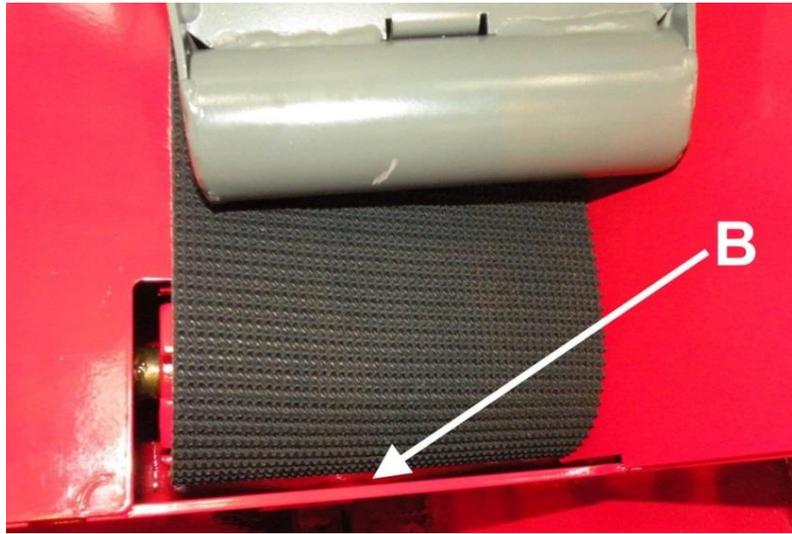
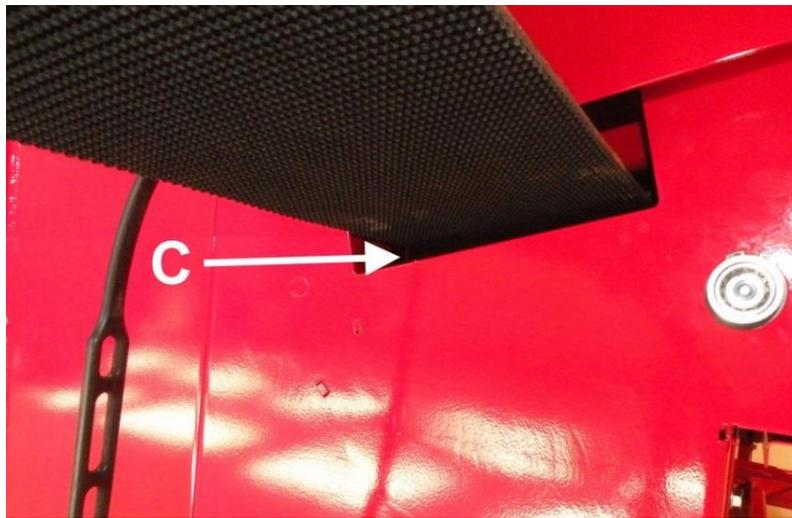

Figure 27
Figure 28
6. Insert the new belt from the side of the in-feed conveyor's drive roller through opening B (Figure 27), until you can pull the belt out from other end C (Figure 28). Note! If necessary, remove the guard of the in-feed conveyor in accordance with the instructions in Section 4.5.